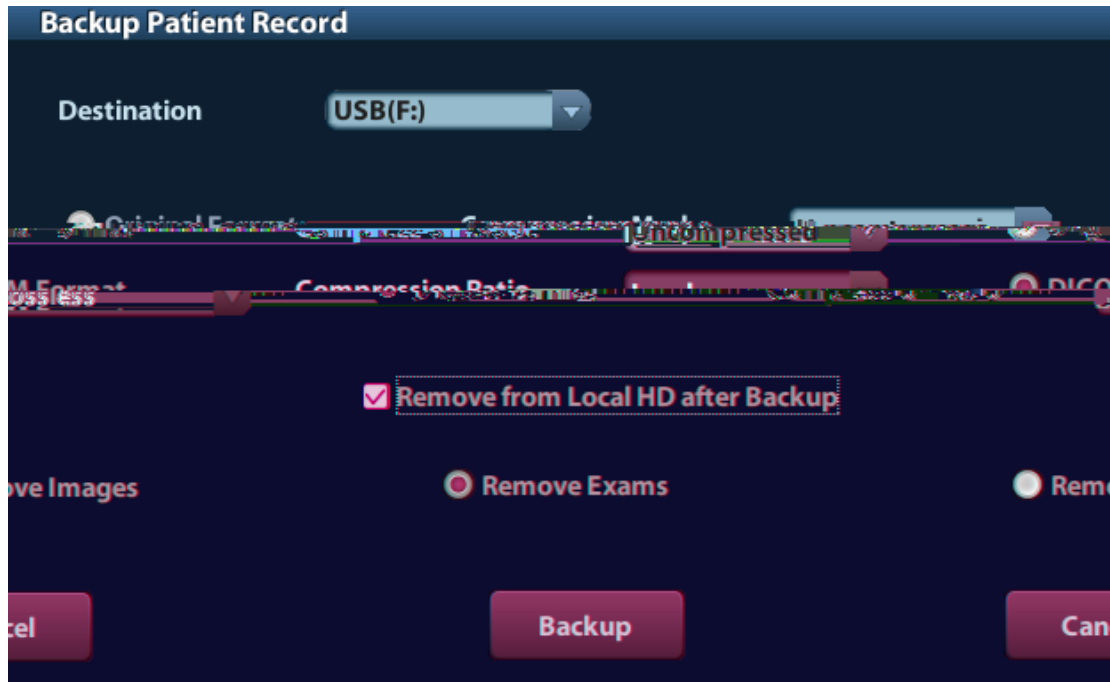

Figure 21 DICOM Format Backup
3. In the dialog box popped up, select the [Destination], and select “DICOM Format” as shown in Figure 21 DICOM Format Backup.